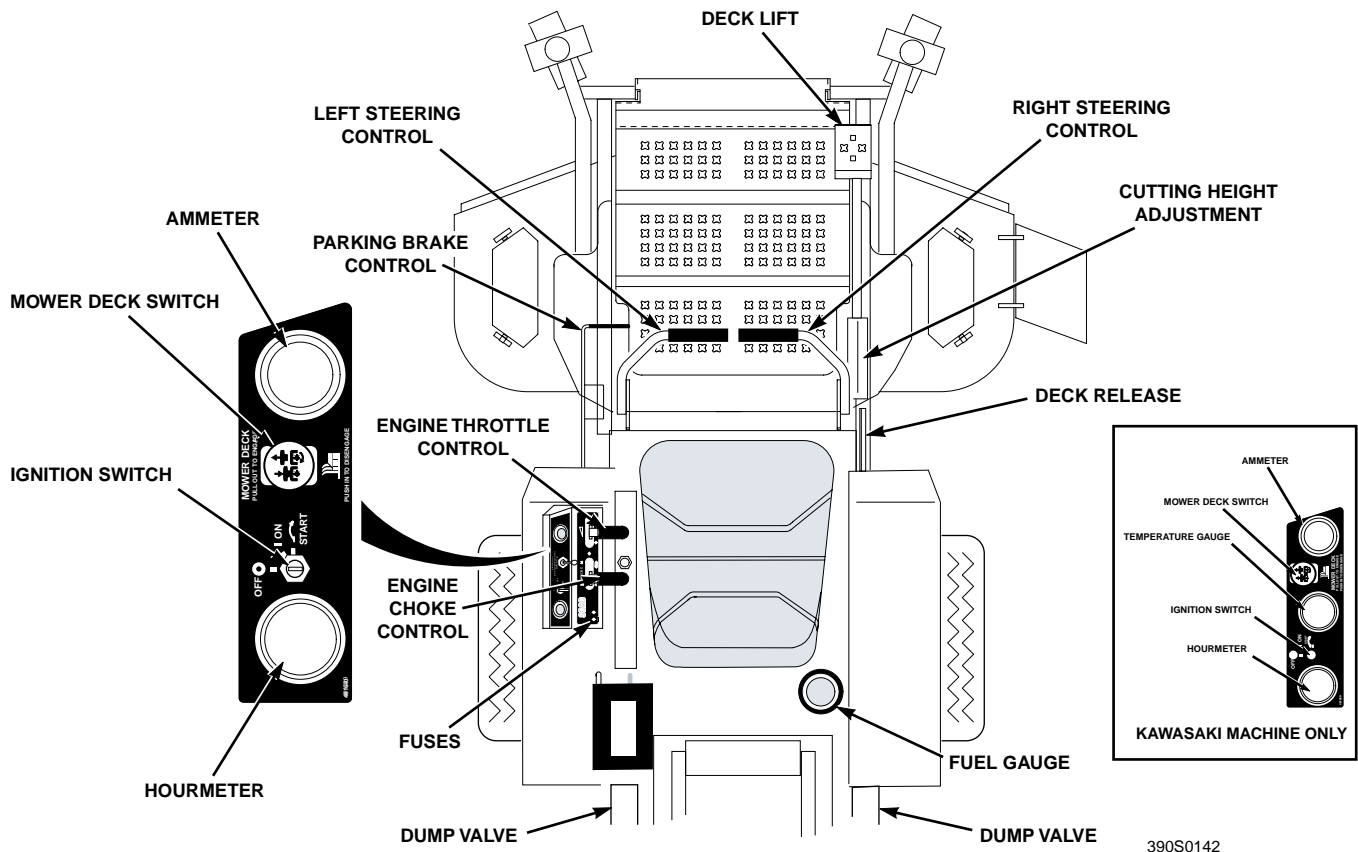

Figure 4-1 Controls and Instruments
1. **Ignition Switch (Figure 4-1).** The ignition switch is used to start the engine and has three positions; OFF, ON, and START.
2. **Mower Deck Switch (Figure 4-1).** Used to engage and disengage the mower drive system. Pulling up on the switch will engage the deck drive. Pushing down on the switch will disengage the deck drive.
3. **Engine Choke Control (Figure 4-1).** Used to start a cold engine.
4. **Engine Throttle Control (Figure 4-1).** Used to control the engine speed. Pushing the lever forward increases engine speed. Pulling the lever back decreases engine speed. Full back position is the IDLE position. Full forward is the cutting position.
5. **Ammeter (Figure 4-1).** Indicates the condition of the charging system. When the engine is running the needle should be toward the positive end of the meter. If the needle is toward the negative end of the meter, this indicates a discharge condition and the machine should be taken in for service.
6. **Hourmeter (Figure 4-1).** Indicates the number of hours the engine has been operated. It operates whenever the ignition key switch is in the ON position. It can be used to keep track of maintenance intervals and the amount of time required to perform various tasks.
7. **Fuse Holders (Figure 4-1).** Two 20-amp fuses protect the mower's electrical system. To replace fuses, pull fuse out of the socket and install a new fuse.
8. **Left Steering Control (Figure 4-1).** Used to control the mower's left wheel when traveling forward or reverse.
9. **Right Steering Control (Figure 4-1).** Used to control the mower's right wheel when traveling forward or reverse.
10. **Parking Brake Control (Figure 4-1).** Used to engage and disengage the parking brakes. Pull the lever back to engage the parking brakes. Push the lever forward to disengage the parking brakes.
11. **Fuel Tank Gauge (Figure 4-1).** Indicates the amount of fuel in the fuel tank.
13. **Deck Lift Foot Lever (Figure 4-1).** Used to raise and lower the cutter deck.
14. **Cutting Height Adjustment (Figure 4-1).** Used to set the cutter deck at the desired cutting height.
15. **Deck Release Lever (Figure 4-1).** Used to lock the cutter deck in the transport position. Push the foot pedal forward and lift up on the release lever to release the cutter deck for normal mowing.
16. **Temperature Gauge (Figure 4-1).** Indicates the operating temperature of the engine. *Used on the Kawasaki liquid cooled engine only.*